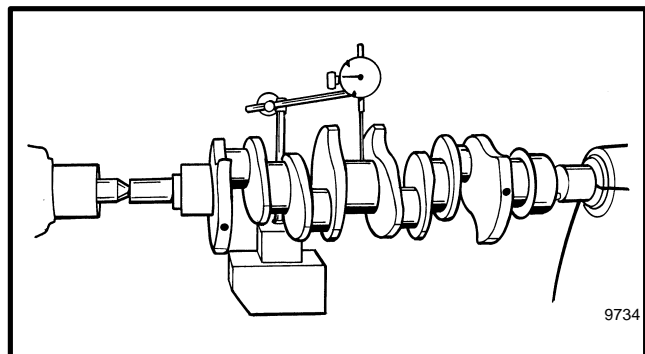

FIGURE 35. CRANKSHAFT INSPECTION
2. Check the crankshaft as shown in FIGURE 35. Rotate the crankshaft one turn and check the reading on the dial indicator. If the difference between the highest and the lowest reading is more than 0.06 mm (0.002 inch), repair or replace the crankshaft.